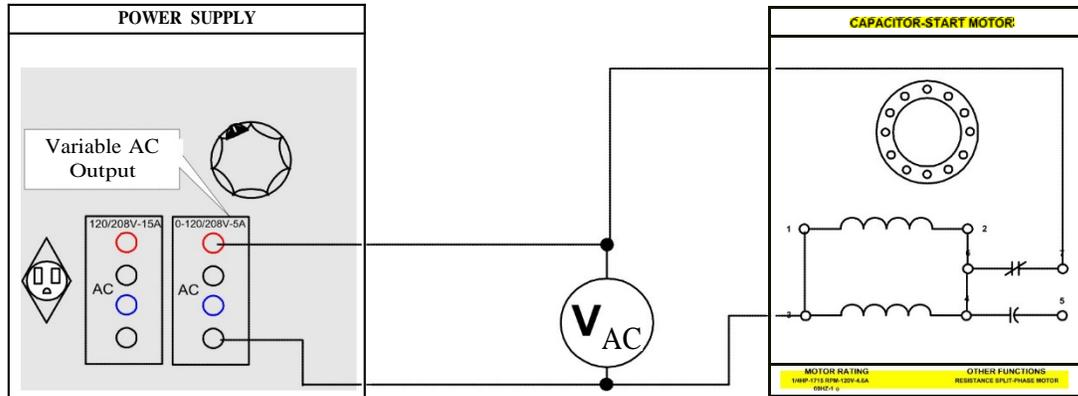

FIGURE 8.8
Step 23: Connect the circuit shown in Figure 8.8. Note that both windings are connected in parallel and that the centrifugal switch is in series with the parallel connected motor windings and the 100 Vac power supply terminals 4 and N.